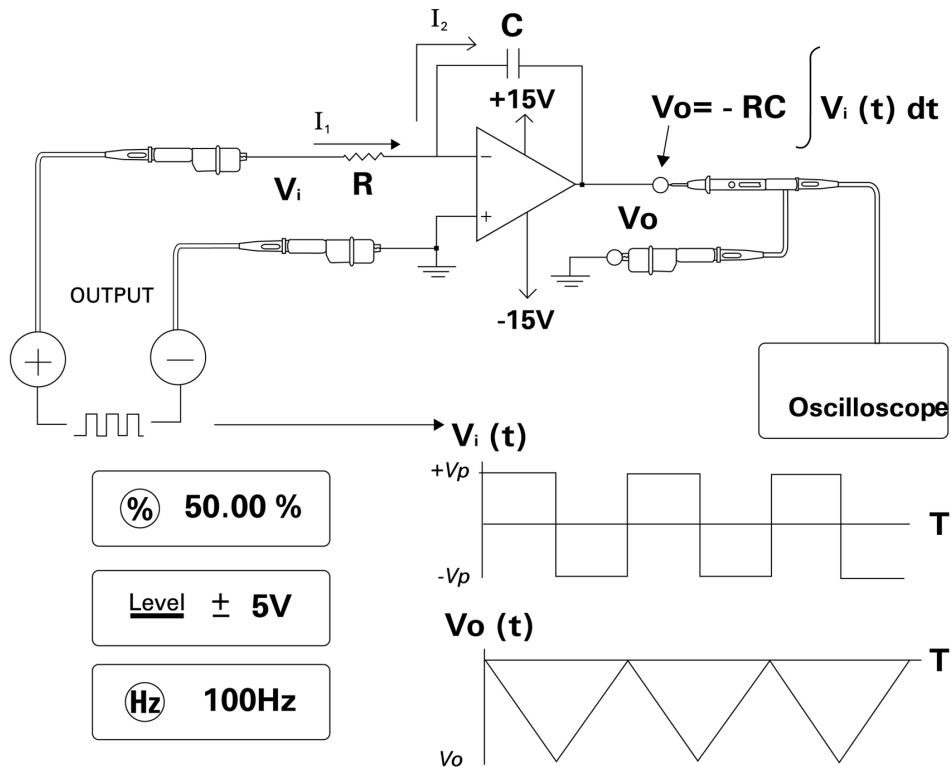

Figure 5-15 Square wave to triangular wave conversion
The integrating circuit in Figure 5-15 on page 112 produces an output voltage that is proportional to the integral of the input voltage.
- 3 Connect the operational amplifier as shown in Figure 5-15 on page 112.